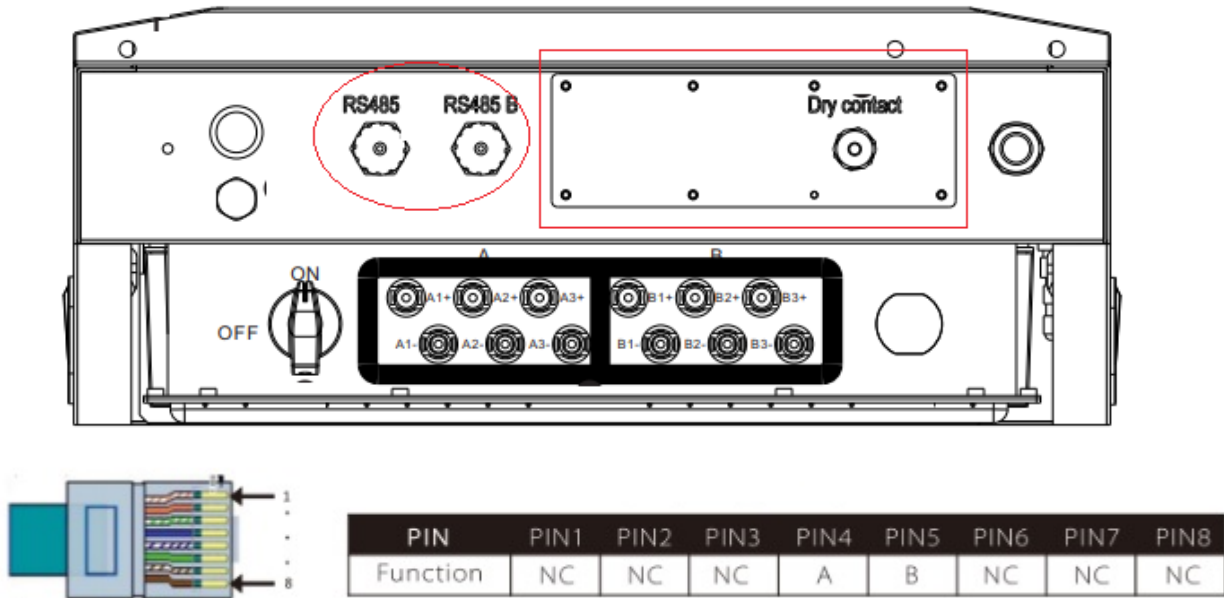

Figure S1 – Solax String Inverter Connections
1. Please insert the Lan Cable in RJ45 port of the inverter and check the communication interface as shown in Figure S1.